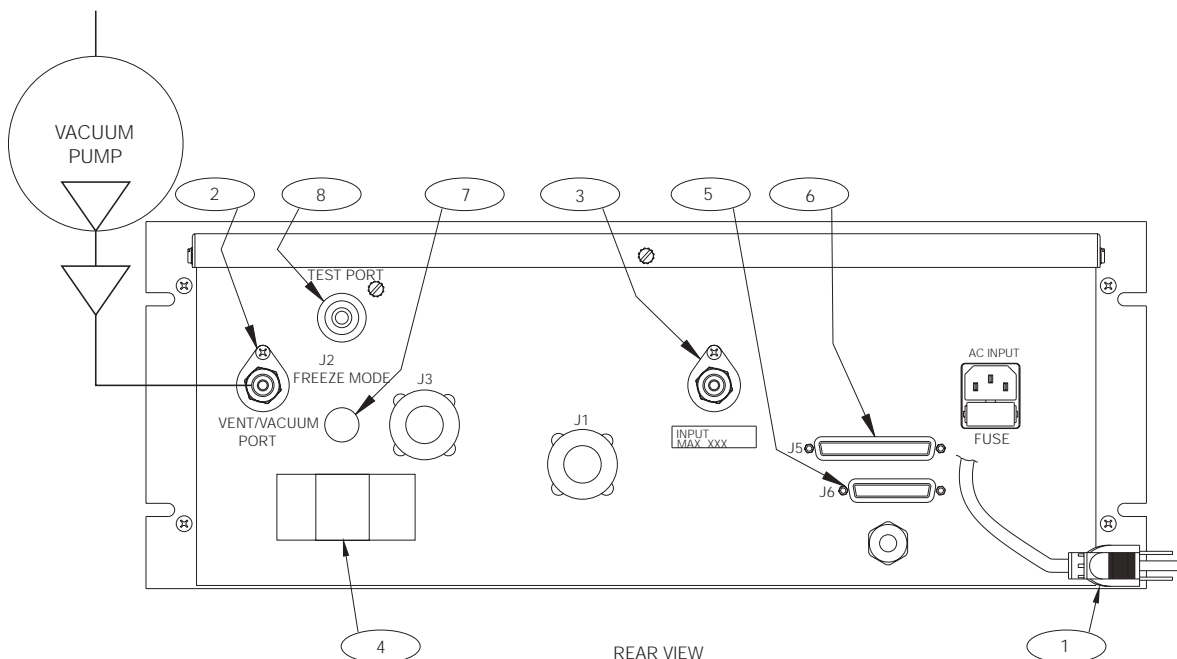
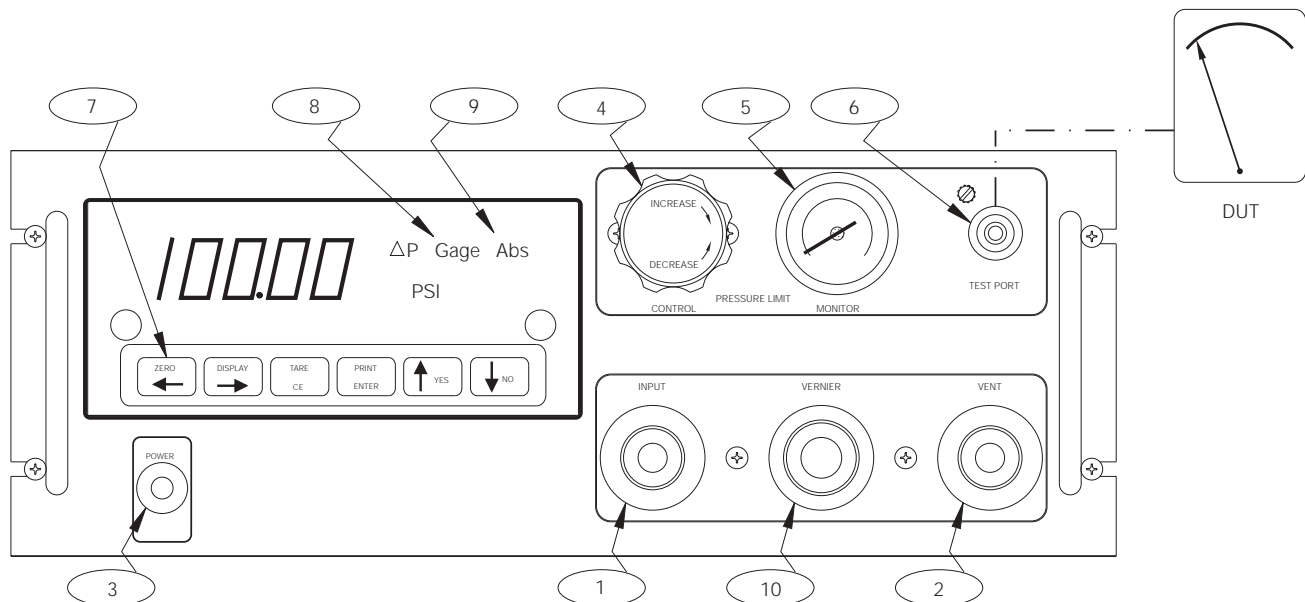

Figure 2-1. DLR3110 Rear View
Figure 3-1. Pressure Measurement Sequence
To prepare for actual calibration usage, see Figure 3-1 on page 9 and proceed as follows:
1. With reference to Figure 3-1 on page 9, check that the indicator on the right end of the display indicates *Gage* (8). If not, see Section 5.11 on page 21.
2. Press and release the ZERO switch (7). DLR3110's LEDs momentarily display the word *Zero* and then the display returns to a 0 reading. The instrument may be zeroed at anytime, as long as the VENT valve (2) is open, by momentarily depressing the ZERO switch (7) for less than 5 seconds.
3. To apply pressure, close the VENT valve (2) approximately two turns clockwise until it stops, then open the INPUT valve (1) approximately 1/2 turn counter-clockwise until the numerical display begins to move. The pressure may change rapidly until reaching approximately 90% of the desired final value.
4. Use either the INPUT (1) or VENT valve (2) to obtain a specific pressure reading. Both provide precise control. As the pressure approaches the desired value, the valve being used for control should be rotated slowly clockwise to its closed position. With a little experience, pressure values very close to the desired final value can be quickly achieved.
5. To obtain exact pressure readings, slowly rotate the VERNIER control knob (10) in the direction required (clockwise to increase pressure) as indicated by the electronic numerical display.
1. With reference to Figure 3-1 on page 9, check that the indicator on the right end of the display indicates *Abs* (9). If not, see Section 5.11 on page 21.
- a) To apply pressure, close the VENT valve (2) by turning clockwise approximately two times until it stops and open the INPUT valve (1) by turning counter-clockwise approximately 1/2 turn until the numerical display begins to move. In general, the pressure may be changed rapidly until reaching approximately 90% of the desired final value.
- b) Use either the INPUT (1) or VENT valve (2) to obtain a specific pressure reading. Both provide precise control. As the pressure approaches the desired value, the valve being used for control should be rotated slowly clockwise to its closed position. With a little experience, pressure values very close to the desired final value may be quickly achieved.
- c) To obtain exact pressure readings, slowly rotate the VERNIER control knob (10) in the direction required (clockwise to increase pressure) as indicated by the electronic numerical display.
3. If pressure measurements above and below atmospheric pressure are required, connect a VACUUM PUMP to the VACUUM/VENT port (2) as shown in Figure 2-1 on page 3.
4. Open the VENT valve (2), close the INPUT valve (1) and apply power to the vacuum pump and allow it to evacuate the system for several minutes or until the digital display reading reaches equilibrium near 0 PSIA.
5. With the vacuum pump still running, close the VENT valve (2) and check for system leaks. If there are none, continue to step 5.1.
- a) To apply pressure, close the VENT valve (2) by turning clockwise approximately two turns to its stop and open the INPUT valve (1) by turning counter-clockwise approximately 1/2 turn until the numerical display begins to move. In general, the pressure may be changed rapidly until reaching approximately 90% of its desired final value.
- c) To obtain exact pressure readings, slowly rotate the VERNIER control (10) knob in the direction required (clockwise to increase pressure) as indicated by the electronic numerical display.